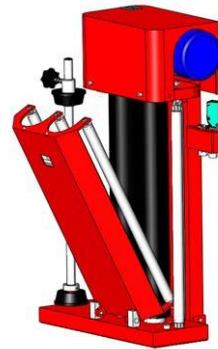

Fig 3-3
4. Push down handle E to open the cover, then pass the film through in the direction of the arrow (Fig 3-3) then close the cover. Pass the film behind and around the first roller then between the first and second roller.